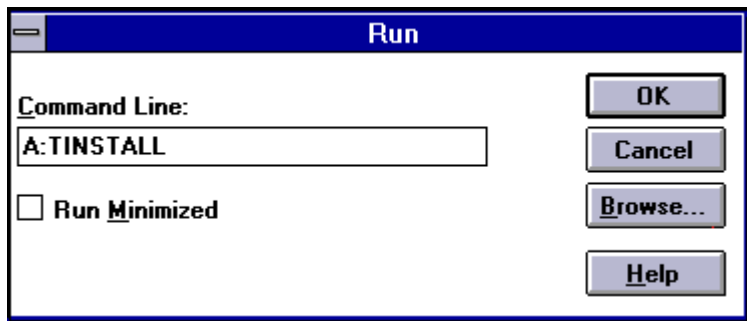

Figure 3-10.
5. TYPE in []:TINSTALL" (if the display driver disk is in the B drive or DISC in CD ROM then TYPE in X:TINSTALL") and then PRESS ENTER (see Figure 3-10).